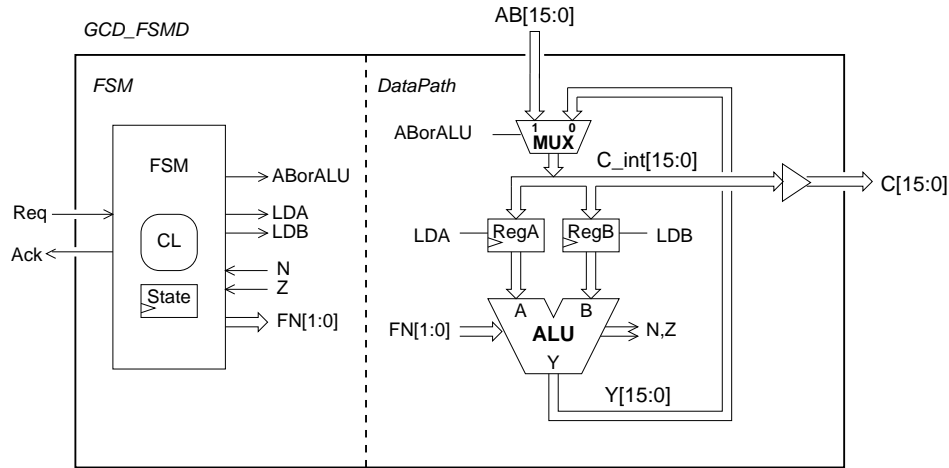

Figure 2: A *possible* FSMD-style implementation of the GCD-module, using two registers and one ALU.
Looking at the algorithm, it is obvious that a possible implementation could involve a finite state machine controller and a datapath containing two registers (`A` and `B`), an ALU, and one or more busses/multiplexors to implement the required signal flow. One example of such a possible FSMD-style (Finite State Machine with Data-path) implementation is shown in Figure 2 and Table 1.
- Assume that the data-path is implemented as shown in Figure 2, that A, B, and C are 16-bit unsigned integers, and that the technology primitives available on the FPGA are D-flip-flops and 6-input LUT's. Estimate how many flip-flops and LUTs are needed to implement the data-path? Briefly explain your estimate. Hint: this is not a difficult question – you do not need to perform a detailed implementation, a LUT can implement *any* 6-input Boolean function.
amount of hardware resources: one ALU, two registers (for A and B), and some selection circuitry to provide data-pathways between these resources. Such a datapath was introduced previously and shown in Figure 2.
We will now explore VHDL's capabilities to express structure, i.e., schematics. Your task will be to develop a structural implementation of GCD using a finite state machine and a structural implementation of the data path as shown in Figure 2. You will have to write some new VHDL files from scratch, in which you define the new entities and architecture bodies. The structural architecture of the entity `gcd` must consist of two entities `FSM` and `datapath`, and the structural architecture body of `datapath` must use instances of the following components:
- `alu` : 16-bit ALU with the functions described in Figure 2.
- a) Develop a structural VHDL model of the system shown in Figure 2. This involves:
(1) A new structural architecture body for `gcd_module` consisting of two entities/-components `FSM` and `datapath`. (2) A definition of the `datapath` entity. (3) A structural architecture body for the `datapath`.